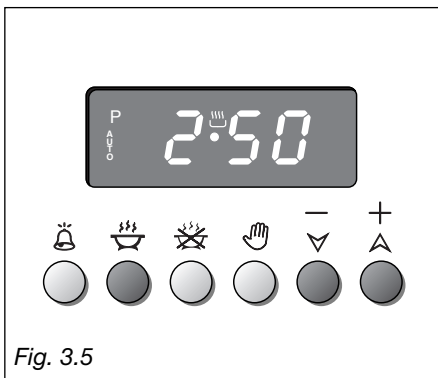

Fig. 3.5
1. Set the length of the cooking period by pushing the  button and the  (+) button to increase, or  (-) to decrease if you have passed the desired time (fig. 3.5). The **AUTO** and the  symbol will illuminate.